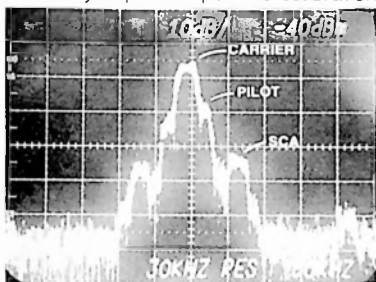

Fig. 45. Fm Stereo Station "Signature"
3. With normal station audio the display for a stereo station will appear as in figure 45. On the average it will occupy an area ± 75 kHz around the carrier LESS the resolution bandwidth chosen.